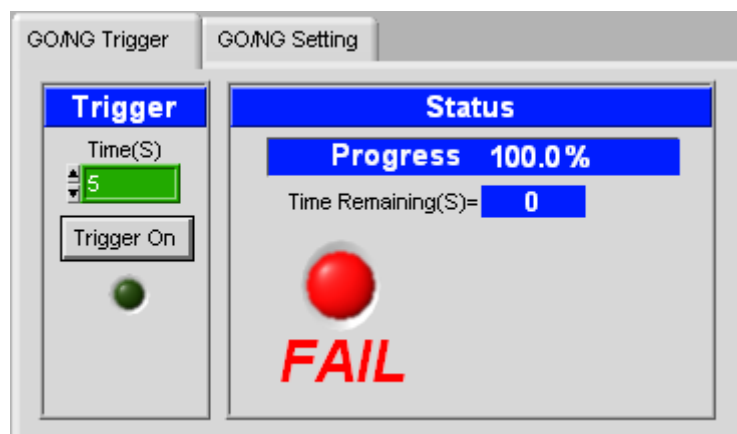
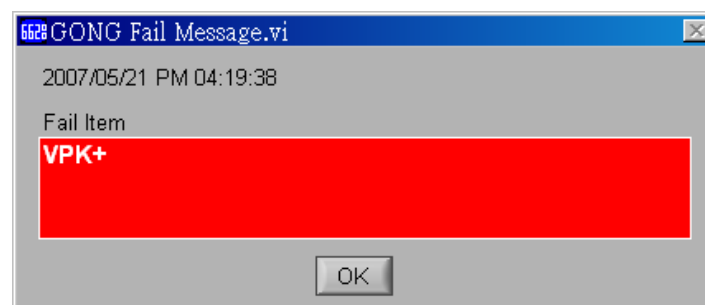

Figure 4-20 GO/NG Trigger
Figure 4-21 GONG Fail Message
Switch to GO/NG Trigger screen as shown in Figure 4-20 after the GO/NG Setting is done. Time(S) sets the detection time of GO/NG and the light beneath the button **Trigger On** will turn on when it is clicked to start the judgment. To pause it, just click **Trigger Off**. If the measured value is inside the specification range within the time set, PASS will appear when the time is due; or FAIL will prompt as well as the parameter that exceeds the specification rang as shown in Figure 4-21.